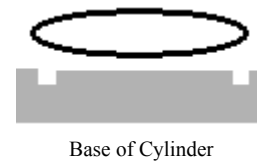

Fig. B-6
## Leakage at Base #2 (Fig. B-6)
3. The rubber O-Ring may become loose or worn. Inspect the O-Ring. If loose, refit. If worn due to use, replace. (Fig. B-6)